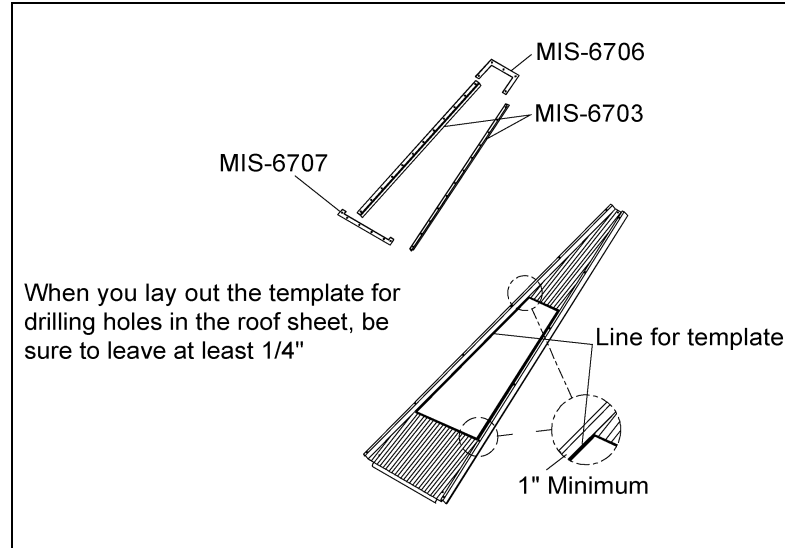

Figure 5C 24" Roof Fan Template Placement on the Roof Sheet.
1. Assemble the roof sheet mounting template as shown in Figure 5C.